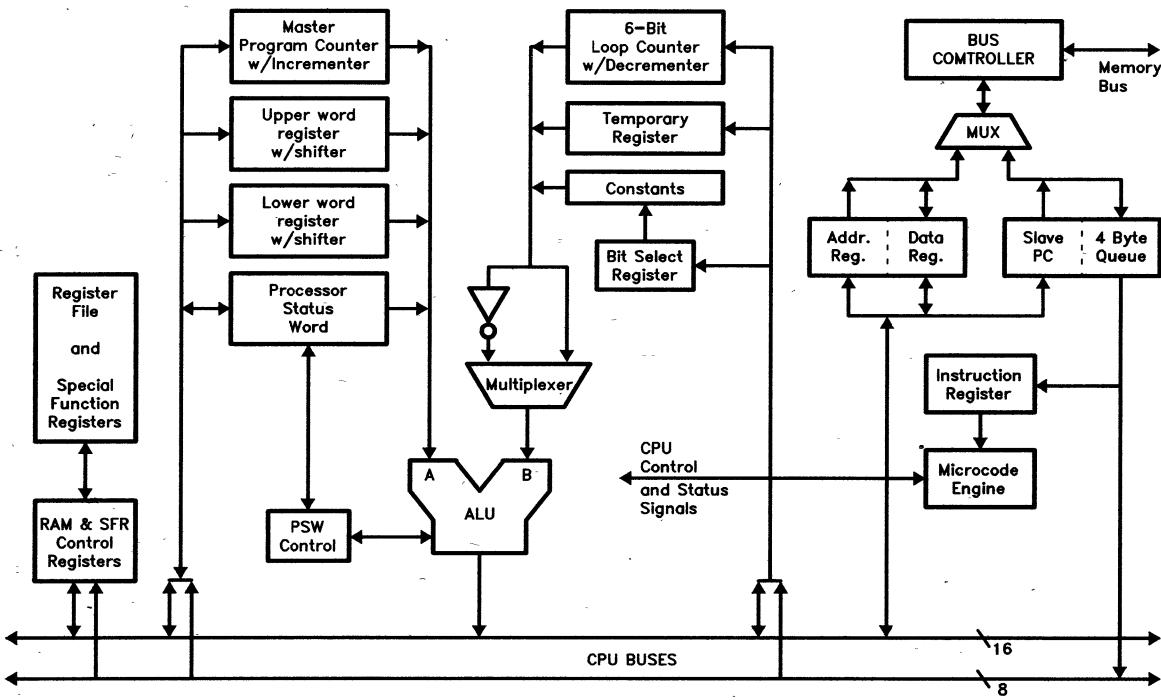

Figure 1-2. RALU and Memory Controller Block Diagram
A microcode engine controls the CPU, allowing it to perform operations with any byte, word or double word in the 256 byte register space. Instructions to the CPU are taken from the queue and stored temporarily in the instruction register. The microcode engine decodes the instructions and generates the correct sequence of events to have the RALU perform the desired function. Figure 1-2 shows the memory controller, RALU, instruction register and the control unit.
Most calculations performed by the 80C196KB take place in the RALU. The RALU, shown in Figure 1-2, contains a 17-bit ALU, the Program Status Word (PSW), the Program Counter (PC), a loop counter, and three temporary registers. All of the registers are 16-bits or 17-bits (16 + sign extension) wide. Some of the registers have the ability to perform simple operations to off-load the ALU.